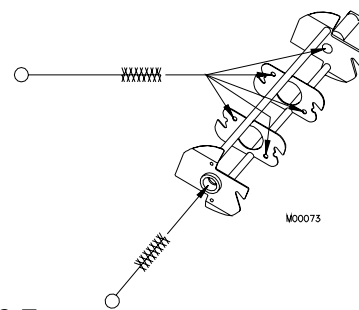

Figure 6-7
- c. The beater shaft inside spring mounting holes and the scraper blade mounting indentations as shown in figure 6-7.